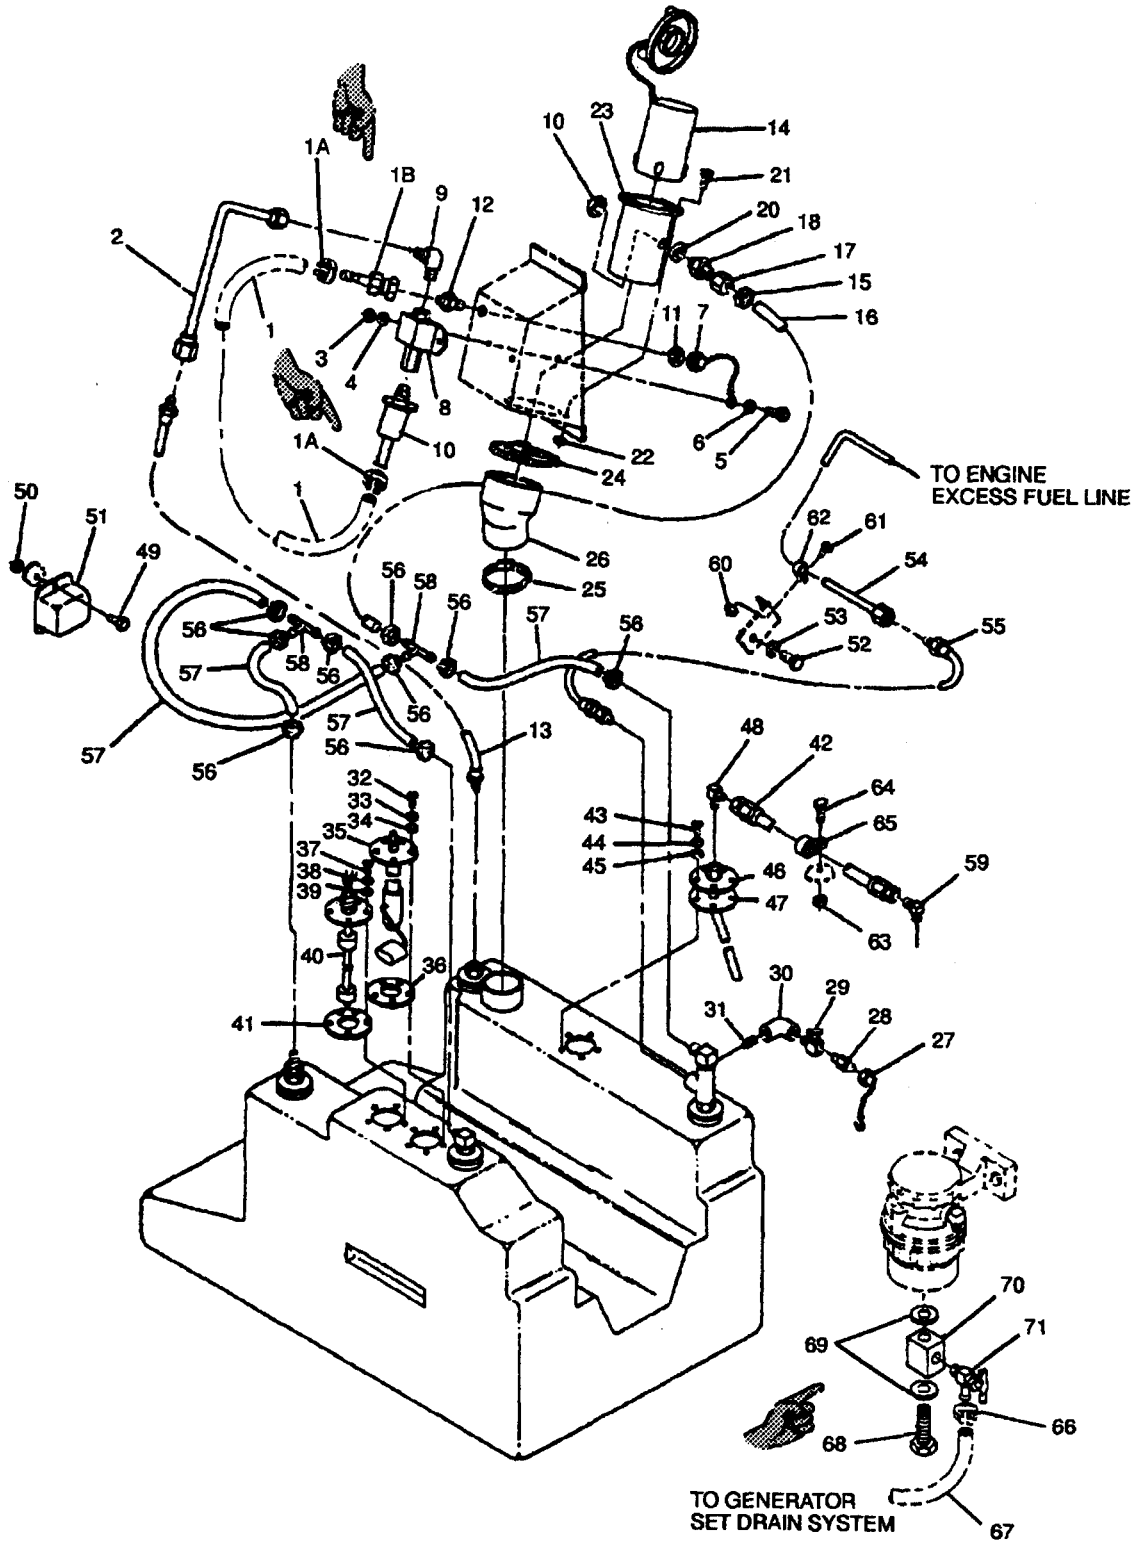

FIGURE 2-26. Fuel Tank Filler Neck and Low Pressure Fuel System
- c. Identify fuel line (1, 2, 13, 16, 42, 54, 55, or 57, FIGURE 2-26) or fitting (9), (10), (12), (18), (28), (30), (31), (48), (58), or (59) that is damaged or leaking and must be removed.
- d. Remove nut (60) or (63), bolt (61) or (64), or clamp (56), (62), or (65) as necessary.
- a. Remove any caps and position fuel line (1, 2, 13, 16, 42, 54, 55, or 57, FIGURE 2-26) or fitting (9), (10), (12), (18), (28), (30), (31), (48), (58), or (59) in generator set.
- b. Connect fuel line at both ends, and install clamp (56), (62), or (65), bolt (61) or (64), or nut (60) or (63) as necessary.
- b. Inspect auxiliary fuel pump (8, FIGURE 2-26) for leaks, cracks, missing hardware, loose connections, and other damage.
- d. Disconnect auxiliary fuel pump outlet line (13, FIGURE 2-26) at fuel tank fitting and place disconnected end in measuring container.
- h. Connect auxiliary fuel pump outlet line (13) at fuel tank fitting.
- d. Tag and disconnect auxiliary fuel pump (8, FIGURE 2-26) electrical connector.
- e. Loosen damp (1a). Disconnect filter (10) and remove adapter fitting (1b) from filler neck panel fitting (12). Remove adapter fitting (1b) from fuel inlet hose (1). Remove filter (10) from auxiliary fuel pump (8). Cap fuel inlet hose (1).
- f. Disconnect auxiliary fuel outlet line (2) from auxiliary fuel pump (8).
- g. Remove nuts (3), lockwashers (4), bolts (5), washers (6), cap and chain assembly (7), and auxiliary fuel pump (8).
- h. Remove fitting (9) from auxiliary fuel pump.
- i. If necessary, remove nut (11) and fitting(12) from fuel filler panel.
- a. If removed, install fitting (12, FIGURE 2-26) and nut (11) in fuel filler panel.
- b. Install fitting (9) to auxiliary fuel pump (8).
- c. Install auxiliary fuel pump (8) and cap and chain assembly (7) in generator set with bolts (5), washers (6), lockwashers (4), and nuts (3).
- d. Connect auxiliary fuel outlet line (2) to auxiliary fuel pump (8).
- e. Remove caps from fuel inlet hoses (1). Install filter (10) on auxiliary fuel pump (8). Install adapter (1b) on fuel inlet hose (1) and connect adapter fitting (1b) to filler neck panel fitting (12). Connect other end of fuel inlet hose to filter (10). Tighten damp (1a).
- c. Remove cap (27, FIGURE 2-26), open fuel drain valve (29) and drain fuel into suitable container.
- e. Remove filler neck cap and tube assembly (14).
- f. Loosen damp (15) and disconnect hose (16) from adapter (17).
- g. Remove adapter (17) from fitting (18).
- h. Remove nut (19), washer (20), and fitting (18) from side of filler neck (23).
- i. Remove bolts (21) and nuts (22) securing filler neck (23) to generator set housing.
- j. Remove damp (24) and (25), hose (26), and filler neck (23) from fuel tank opening. Cover fuel tank opening.
- c. Inspect hose (26, FIGURE 2-26) for cracking, wear, or other damage.
- d. Inspect filler neck (23) for corrosion, cracking, or other damage.
- e. Inspect filler neck cap and tube assembly (14) for damage.
- a. Position hose (26, FIGURE 2-26), dampers (24) and (25), and filler neck (23) on fuel tank.
- b. Install bolts (21) and nuts (22) securing filler neck (23) to generator set housing.